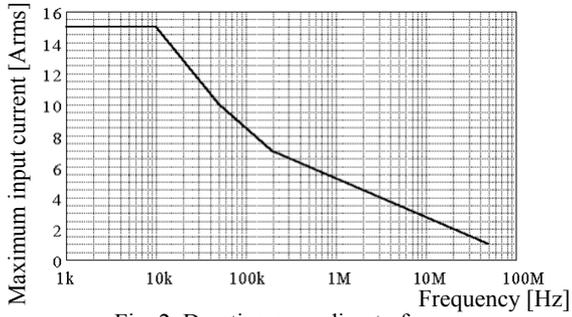

Fig. 2 Derating according to frequency
Maximum continuous current	15A (DC + ACrms) continuous (Refer to frequency derating curve, Fig. 2)
- The maximum continuous input range varies according to the frequency of the current being measured. See figure 2 in “Characteristics”